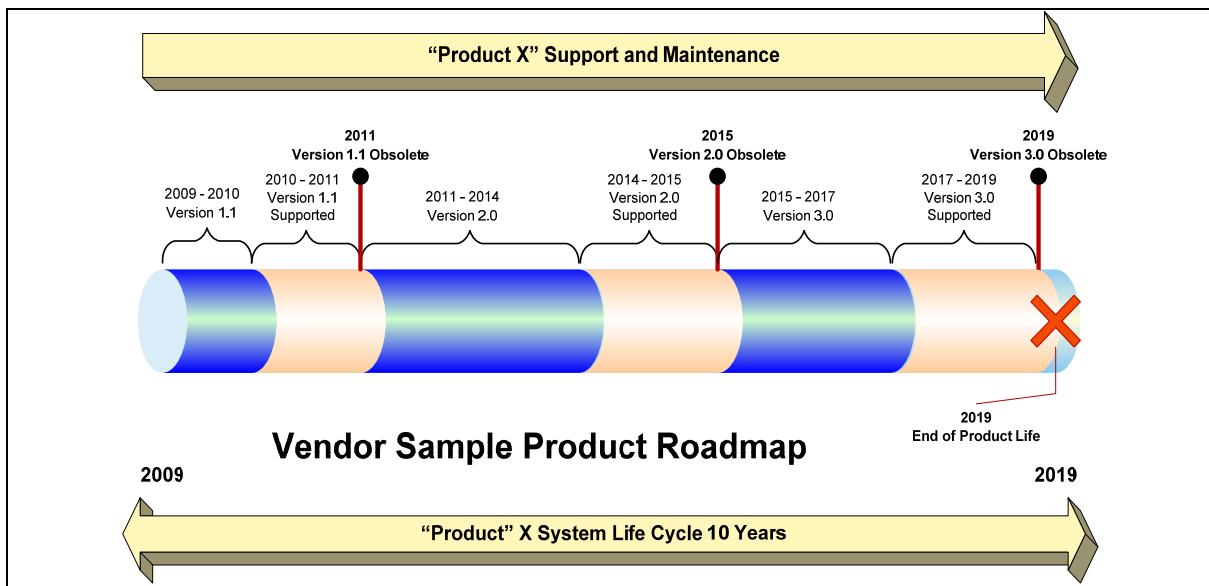

Figure 3 – Vendor Sample Product Roadmap
- Manufacturer’s expectation of the time during which the system will be operational—in other words, its “useful life.” Vendors often refer to this as a vendor “roadmap” (Figure 3). It is important to pay special attention to when a system is scheduled for support and when its “end of life” occurs. These two factors affect decisions to upgrade/replace the system and also have a dramatic impact on the system timeline.